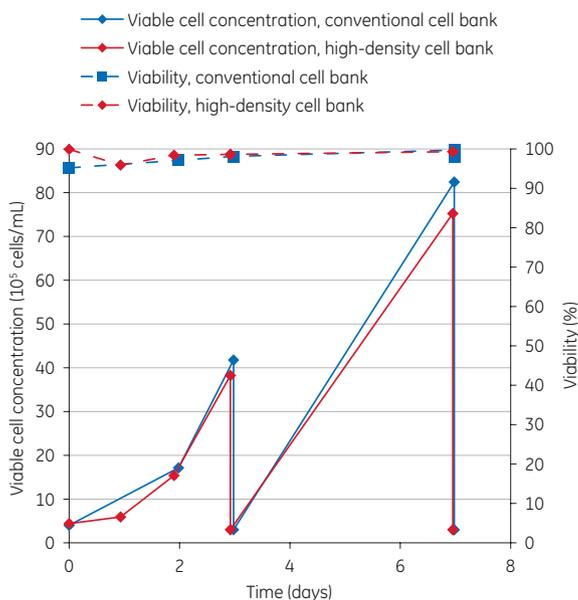

Fig 4. Cells from the high-density cell bank were revived with a viability of > 95%. Growth after revival was similar to growth from a conventional cell bank.
The described method generated a large vial stock of cryopreserved high-density cell bank at 50×10^6 cells/mL and $> 95\%$ viability. Cells were successfully revived following cryopreservation at $> 90\%$ viability, which is similar to the performance of the originator conventional cell bank (Fig 4). One vial of the high-density cell bank was used to inoculate a 20 L Cellbag perfusion culture chamber at a starting volume of 1 L. The culture volume was further expanded to 10 L, after which perfusion was initiated. A final density of $> 50 \times 10^6$ viable cells/mL and $> 95\%$ viability, with cells in full exponential growth phase, was achieved in 10 days (Fig 5). As shown in Figure 6, dissolved oxygen (DO) was well controlled even at high cell density and 10 L volume.